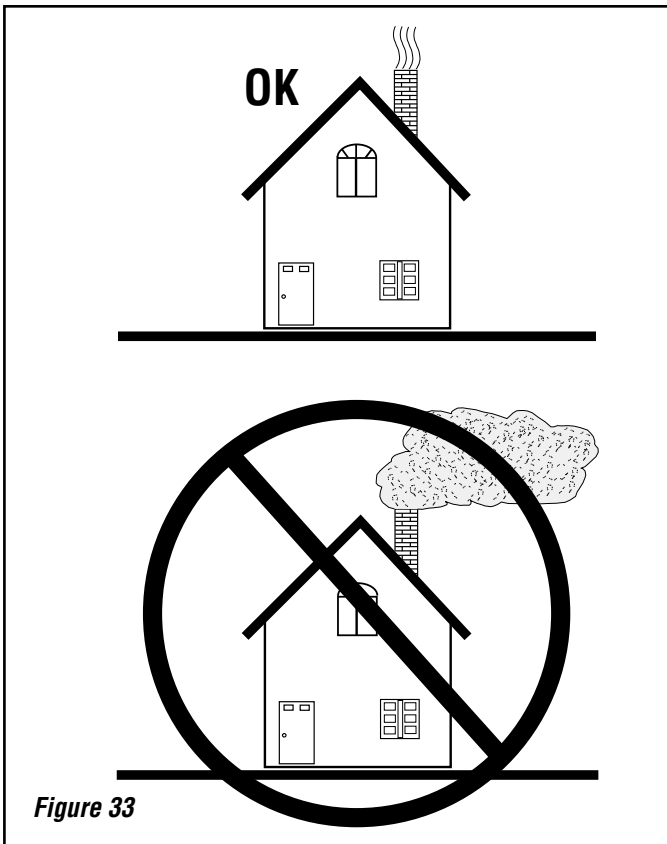

Figure 33
6. Go outside and check your chimney. More than a very small amount of smoke indicates wasted heat, creosote build up and pollution (*see Figure 33*).